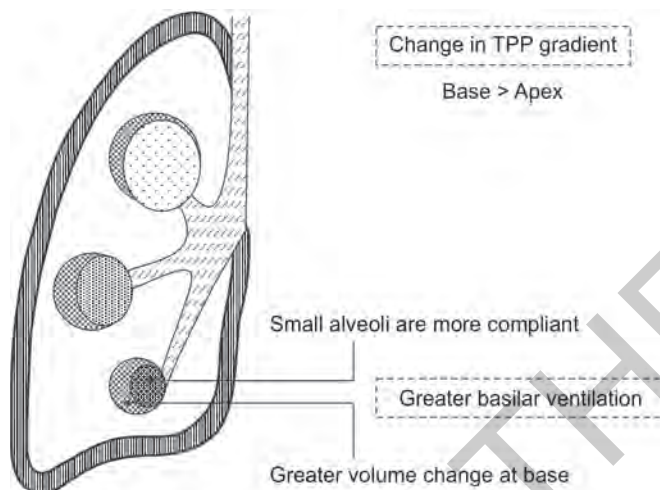

Figure 3.7: Regional difference in TPP gradient during inspiration
d. *Regional difference in the transpulmonary pressure (TPP) gradient during inspiration: Figure 3.7*